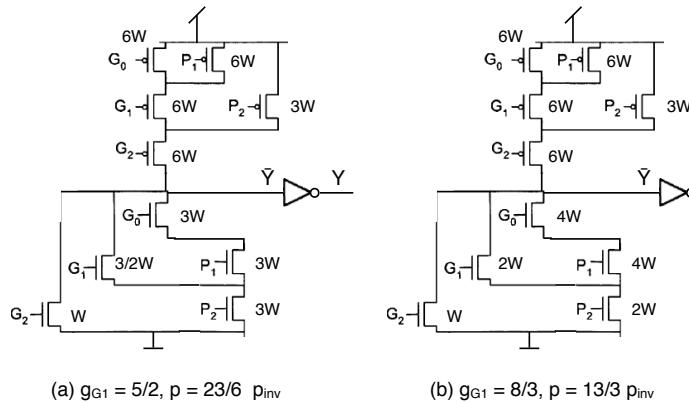

Figure 9: Two possible scalings for equal worst-case resistance and the corresponding values for  $g_{G1}$  and  $p$ .
- There are some different possibilities for how to scale the transistors to get the same worst-case resistance. The two most likely scalings of the schematic are shown in Figure 9 with the corresponding values for  $g_{G1}$  and  $p$ . Solution (a) is probably the one most students have done. Here is that derivation of the logical effort in detail: